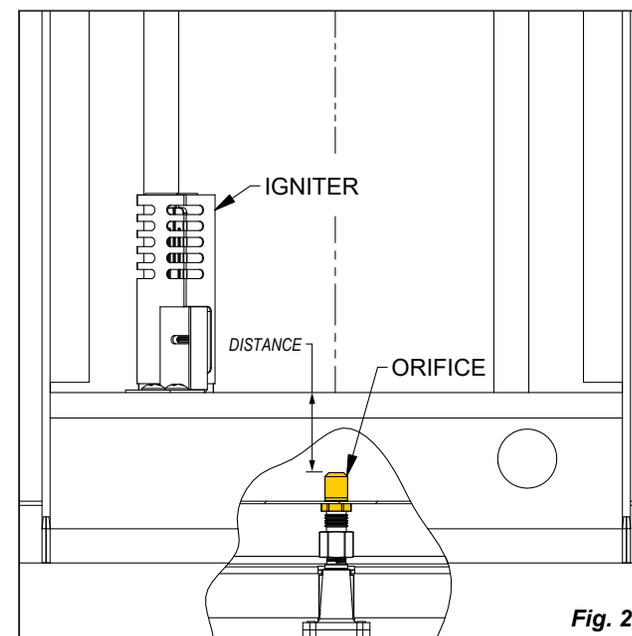

Fig. 2
3. The orifice is now accessible for removal with a 1/2" socket wrench and a short extension. (Fig. 2) Before removal, measure the distance from the tip of the orifice to a sheetmetal feature easily visible to you. Install the new orifice to roughly this same distance. Do not use any pipe dope or sealant on the threads. Install the new orifice slowly to avoid cross-threading and damaging the threads. The orifice will become noticeably harder to turn as you proceed. Consult the table below for identification of orifice sizes.